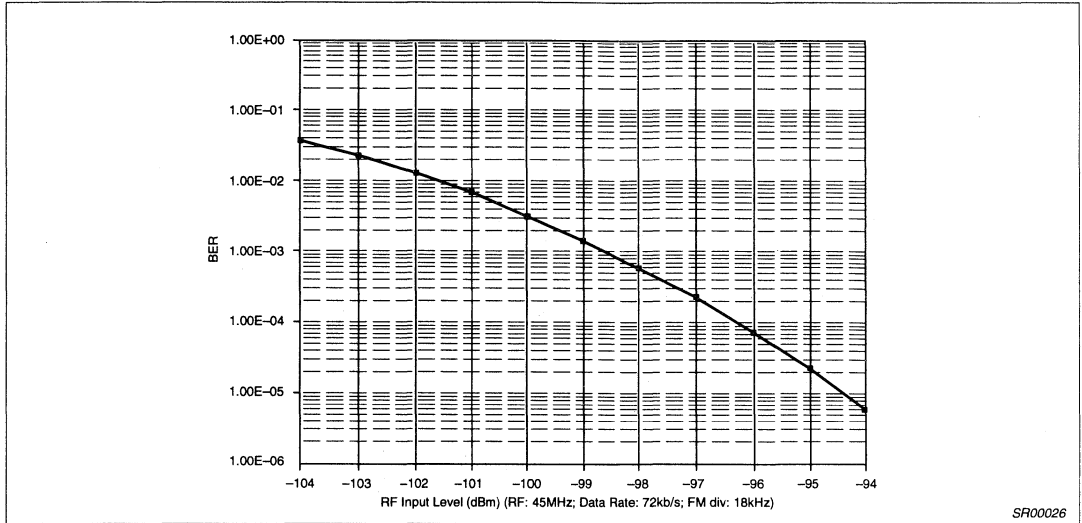

Figure 9. BER of the GMSK/GFSK Demoboard
- Measure BER vs. RF input level curve:** RF level: -94 ~ -104 dBm, LO level: -10dBm, at each point, at least 100 errors have to be measured. Figure 9 presents the measured BER as a reference.